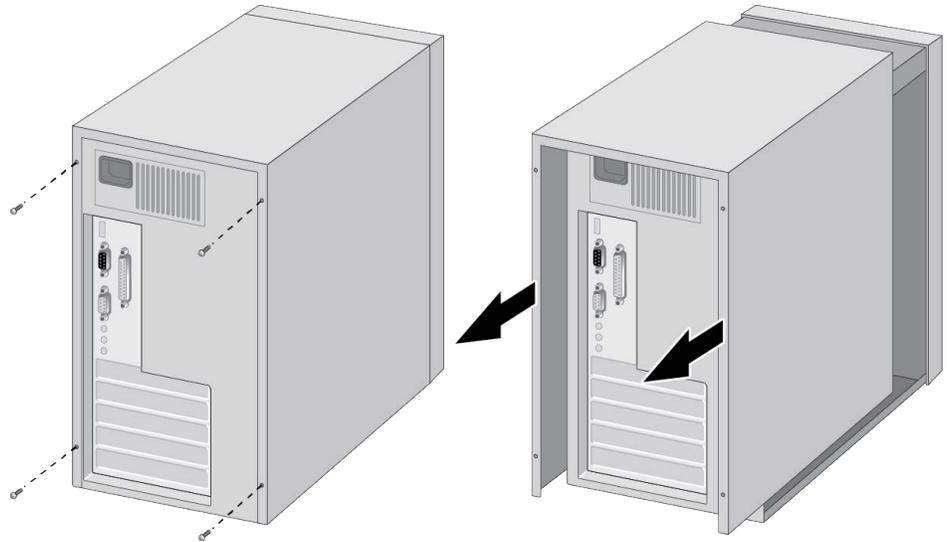

Figure 9. Removing the PC Cover
2. Remove the system cover and select any empty PCIe slot. See Figure 9 on page 33.